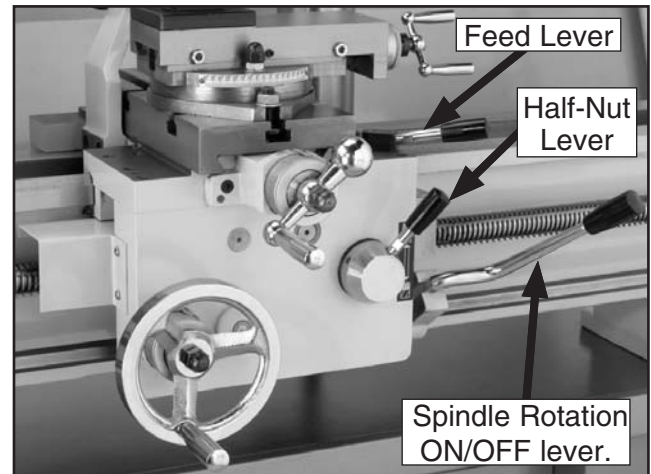

Figure 8. Apron control levers.
Note: The Spindle Rotation ON/OFF Lever (**Figure 8**) on the apron starts the spindle motor in a particular direction.
5. Move the half-nut lever upward to disengage the apron, and move the feed lever to the neutral or central position (see **Figure 8**).
6. Move the spindle rotation ON/OFF lever to its central position (**OFF**) as shown in **Figure 8**, and connect the lathe to power so the green lamp is lit.